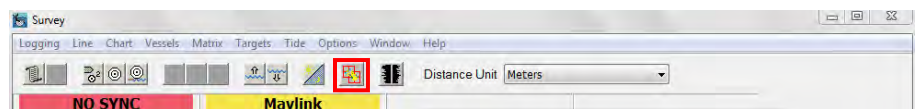

Figure 38: "Multibeam Matrix Settings" icon on the "HySWEEP survey" window
- ⇒ Determine matrix (resolution) using the "Multibeam Matrix Settings" (Figure 38)